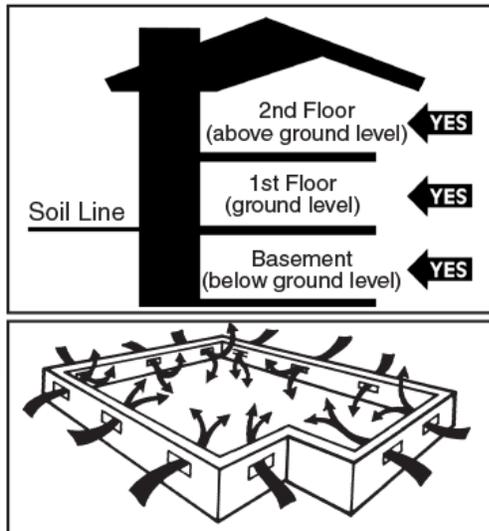

Figure 1
- Crawl spaces must be a minimum of 18” (46 cm) from the ground to the underside of the joists. A ground cover of 6-20 mil black polyethylene film is essential as a vapor barrier with joints lapped 6” (15 cm) and sealed with moisture resistant tape. The crawl space should have perimeter venting equal to a minimum of 1.5% of the crawl space square footage. These vents should be properly located to foster cross ventilation (**Figure 1**).